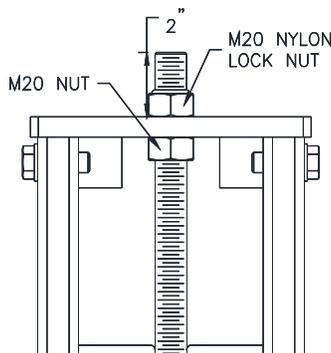

Fig 14 – Lock Ladder Assembly
- 21) Adjust the lock ladder so about 2" remains sticking out of the top. Tighten both bolts as shown in Fig 14 when ladder is properly orientated. Note: When adjusting the lock ladder it may be necessary to loosen or remove the bolts holding the top cap to the column so the bottom nut can be adjusted.